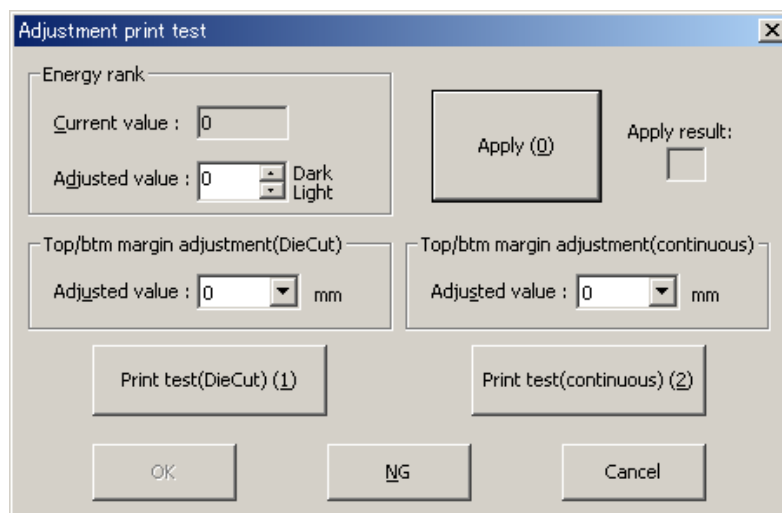

Fig. 23
(1) Click the [(5) Adjustment print test] button. The following screen appears. (Fig. 23)